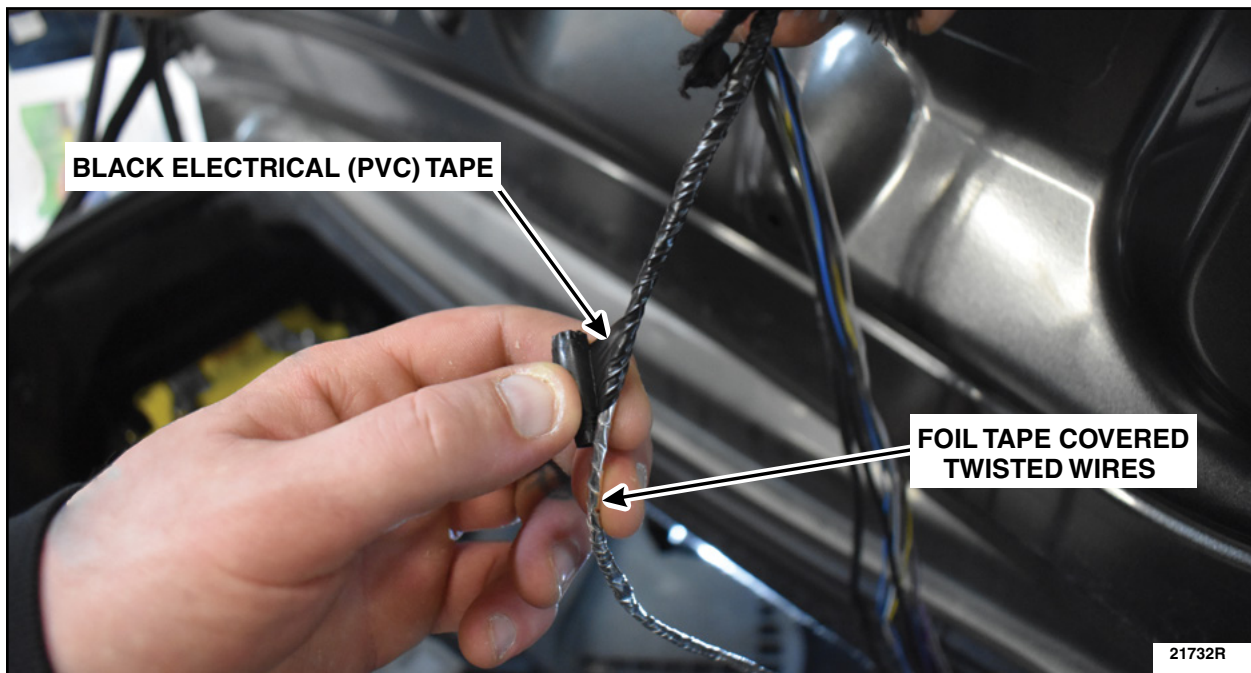

FIGURE 43
62. Wrap the full length of the foil tape covered twisted wires using some KT173510 or equivalent black electrical (PVC) tape over lapping by 50 percent. See Figure 43.